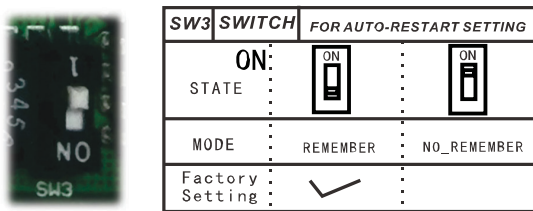

Fig. 13 —Dip Switch SW3 for selecting auto-restart
D. Dip switch SW3 is for selection of auto-restart function. See Fig. 13.